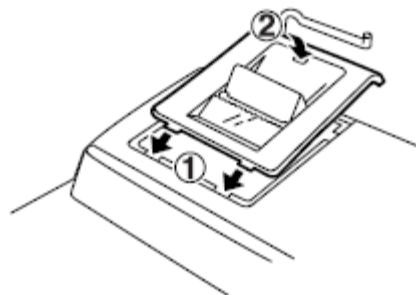

Fig. 4
9. Replace the printer cover. (fig 4)